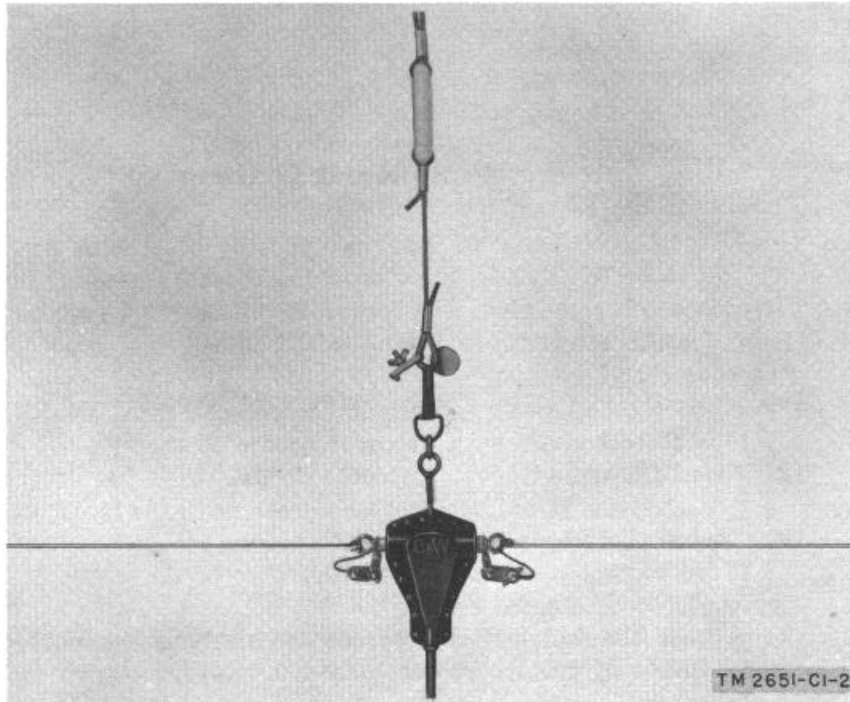

Figure 24. Connections to RF Cable Assembly CG-692/U.
- (1) Erect the two end mast assemblies one-half wave length plus 20 feet apart with halyards paras. 15 and 16).
- (2) Erect the center mast assembly in line with the other two and exactly halfway between them with the halyard.
- (3) Fasten the wire terminations of the two reel assemblies to the cable assembly by tying the wire to the insulator as shown in figures 24 and 25.